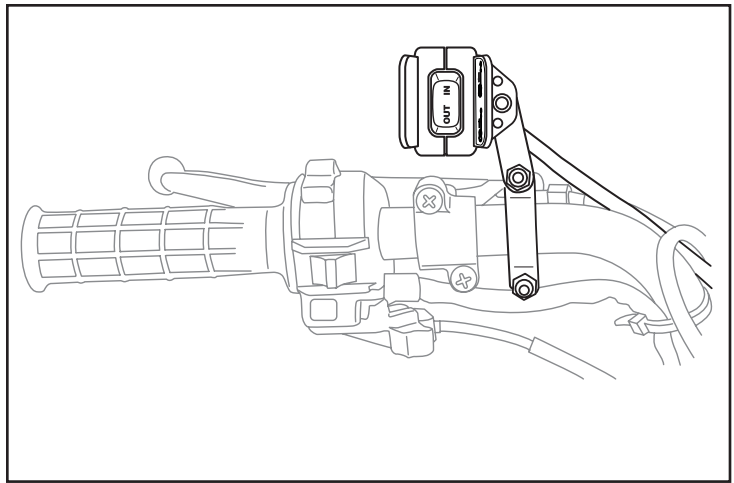

Figure 6 Switch Mounting Location
3. Position the switch such that it can be easily reached without interfering with other accessories on the handlebar. An example of a good location is just above and inboard of the light switch as shown in Figure 6. Mount switch in vertical position so switch direction matches plow lift direction. Tighten all the bolts and nuts securely such that the switch is firmly held into position.